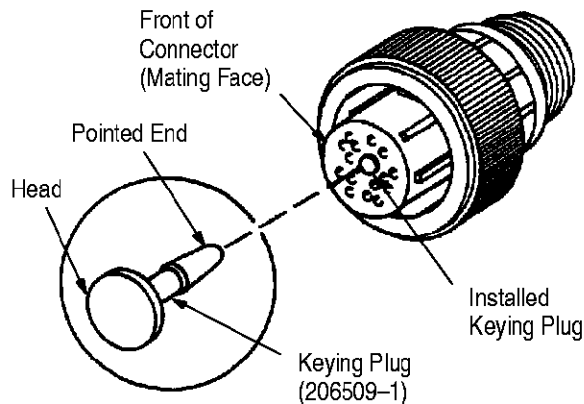

Figure 12
11.2. Keying Series 2 Connectors (Figure 12)